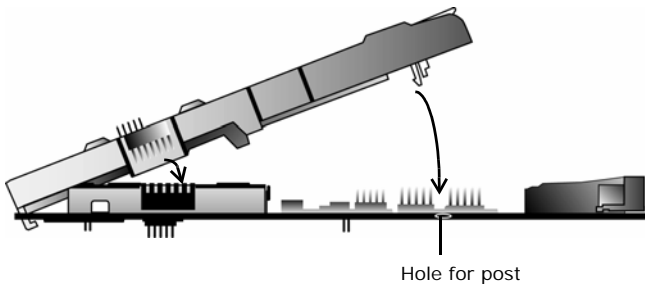

**Figure 5. Battery cable inserted through cable management clips**
- 4 Make sure the battery cable is fastened under the cable management clips, as shown in Figure 5.